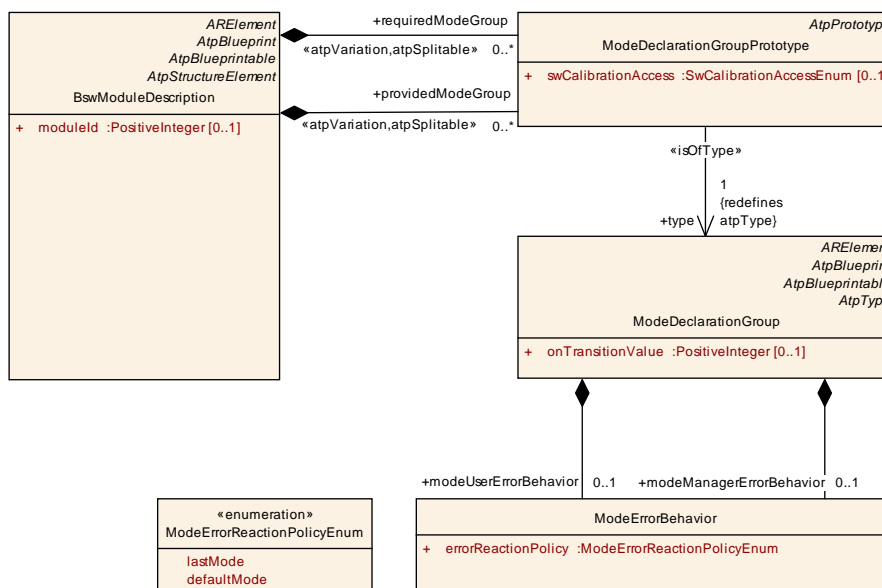

Figure 5.2: Details of BSW Interfaces for modes
**[TPS\_BSWMDT\_04013] Usage of BswModuleDescription.providedMode-Group** [ With the optional attribute `providedModeGroup` a BSW module can declare one or more `ModeDeclarationGroupPrototypes`, each defining a set of modes (mode group) which is used to control the activity of other BSW modules. Those other modules which require to be controlled by the mode group, must declare a compatible `ModeDeclarationGroupPrototype` as attribute `requiredModeGroup`. See figure 5.2. ](RS\\_BSWMD\\_00054, RS\\_BSWMD\\_00056)